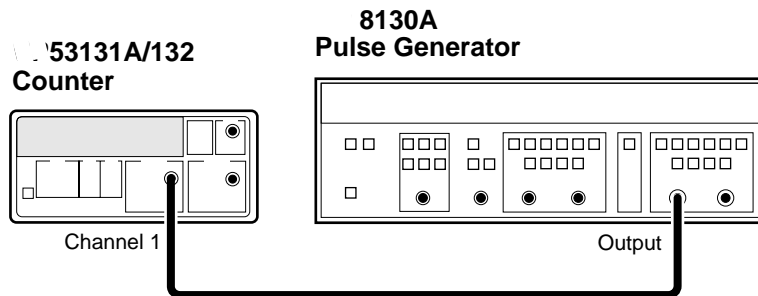

Figure 1-5. Time Interval (Channel 1 TO 2) Test Setup
- 1 **Connect the pulse generator signal to Channel 1 of the Counter as shown in Figure 1-5.**